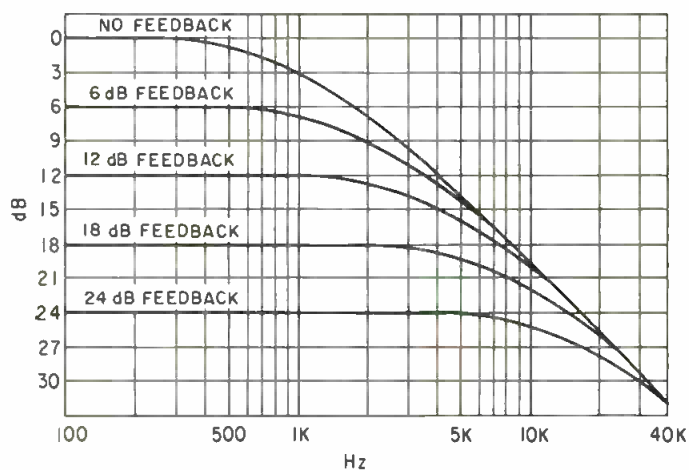

Figure 1. Effect of feedback when only one roll-off is effective. (From Crowhurst, N. H. Feedback, 1952).
A single stage of amplification will always have one high frequency roll-off and, if it uses capacitive or inductive coupling, it may also have a low frequency roll-off. FIGURE 1 shows a roll-off that occurs, in the absence of feedback, at 1000 Hz. If it occurs at 10 kHz or 100 kHz, or anywhere else, the effect is similar, just at a different place.
The two combined produce the response at curve (B), before any feedback. First, note that, as you add feedback, while you extend the frequency response where it is level, just as you did with one stage (FIGURE 1), the ultimate roll-off does not change. Because you cut gain, you reach that roll-off later. This ultimate roll-off is represented by line (D).